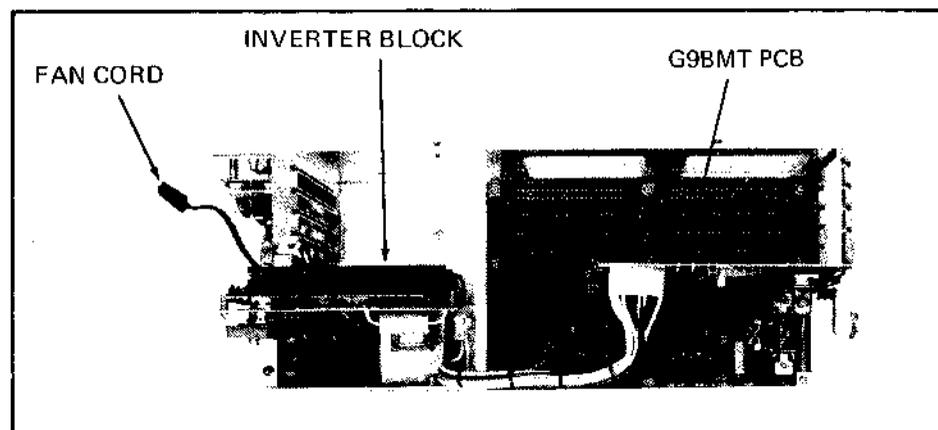

Figure 4-9 Power Supply (Top View)
- j. Remove power supply mounting screws (Figure 4-9) and lift power supply out the rear.